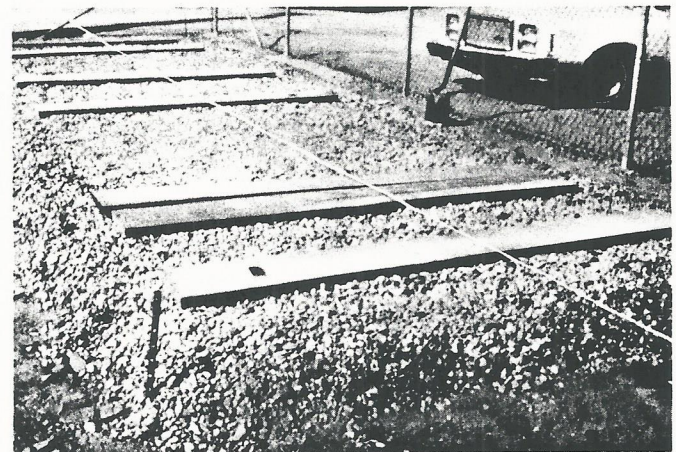

Figure 2 — Centerline marked on foundation.
1. Snap chalk centerline on foundation, centering on wellhead (Fig. 2).